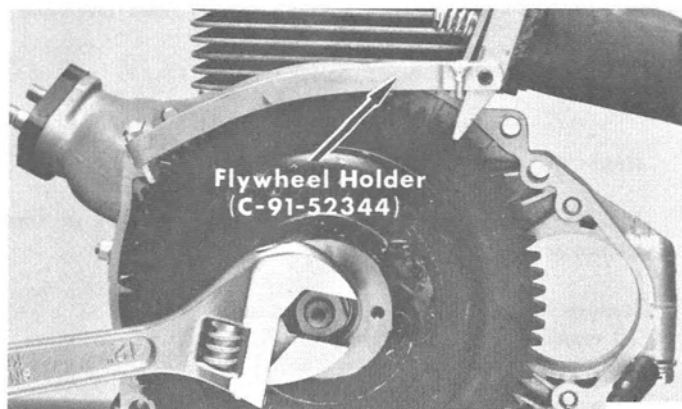

Figure 4. Flywheel Nut Removal
2. Hold flywheel with Flywheel Holder (C-91-52344) and remove flywheel retaining nut. (Figure 4)